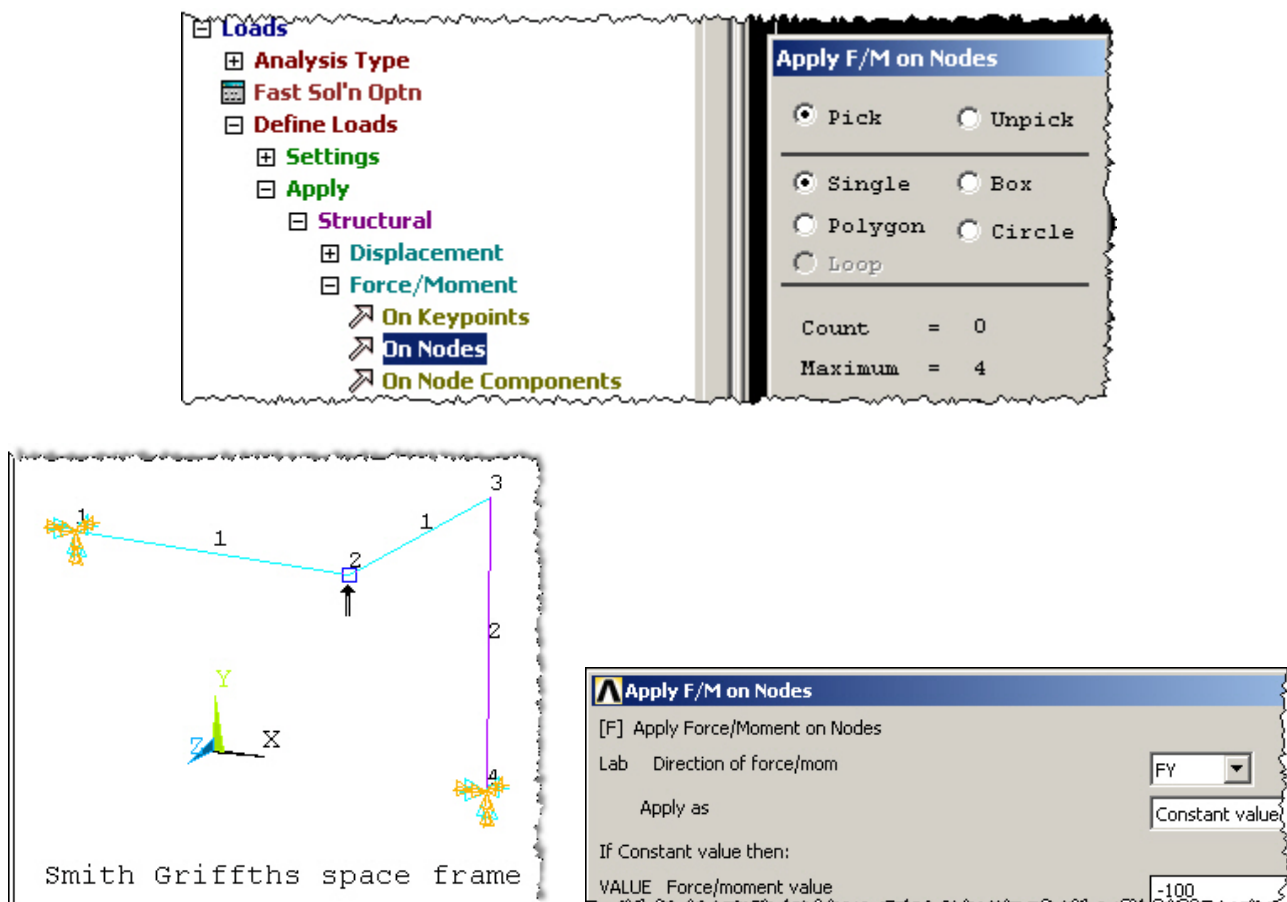

Figure 21 Graphically picking loaded nodes (lower left) and assigning values
3. When the window changes form (lower part of Figure 21, pick a vertical force (**FY**) for the **Direction** of force and -100 (kN) for the **Constant value**, **OK**.